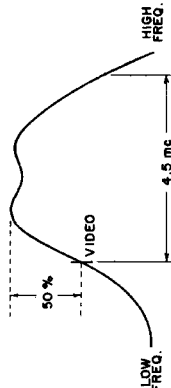

Figure 14. Ideal Response Curve
(may vary considerably from figure 14) appears on the oscilloscope screen. The generator should have a balanced output; if it does not, connect it as shown in figure 11.
- Connect a signal generator (see figure 11) to the antenna terminals and apply an 83.25-megacycle signal (channel 6 video-carrier frequency). A marker should appear on the oscilloscope (see figure 14).